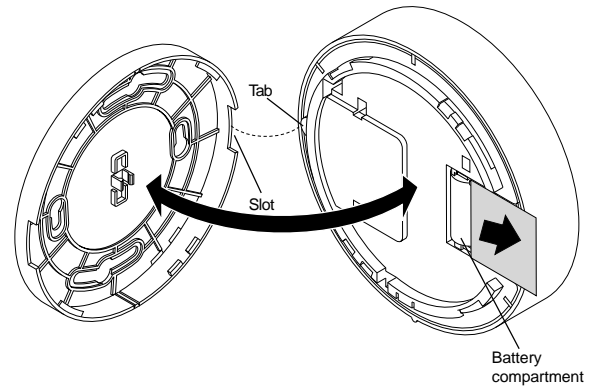

Figure 4 - Smoke Alarm-to-Base Alignment
2. Slide the battery compartment cover away from the alarm to unsnap it and lift it off. See Figure 4.
- Line up the raised tab on the lip of the alarm with the slot on the lip of the mounting base. See Figure 4.
- Line up the raised tab on the lip of the smoke alarm with slot on the lip of the mounting base. See Figure 4.